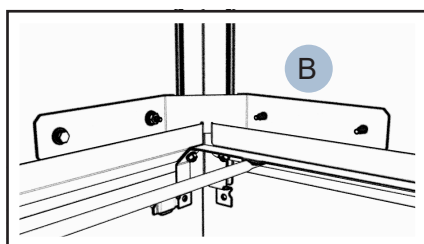

Fig. 8 - Door-lift Bracket (B) Removal
3. Disconnect the door-lift bracket (B) connecting the front door and the wall-side door and discard. To seal the holes, re-install the bolts and lockwashers that held the bracket (see Fig. 8).